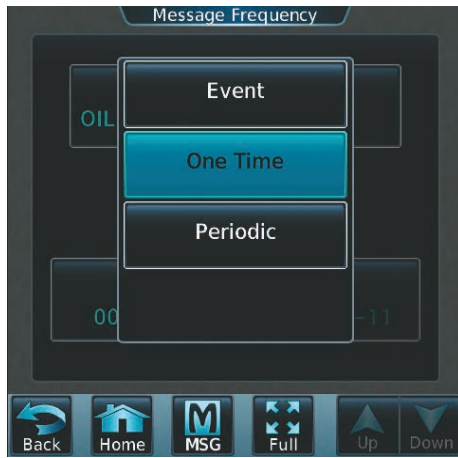

Figure 8-95 Touch One Time Button
- 7) Touch **Event**, **One Time**, or **Periodic**. The selection is displayed on the **Frequency** Button as in Figure 8-95.